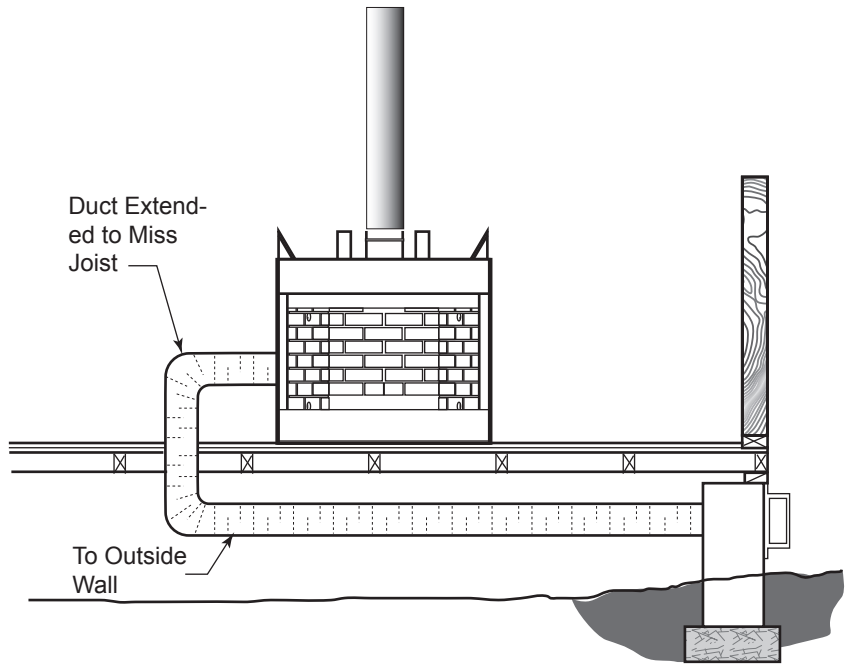

Figure 10 -
1. Avoid extremely long runs and numerous turns in duct leading from fireplace to combustion air assembly. These conditions increase the resistance to free flow of air through duct. *Figures 10 and 11*
4. Combustion air may be drawn from crawl space under house when adequate supply of air is provided by open ventilation. *Figure 10*